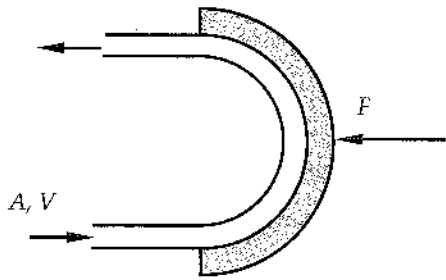

FIGURE P2.36.
36. A two-dimensional, liquid jet strikes a concave semicircular object, as shown in Figure P2.36. Calculate the restraining force F .